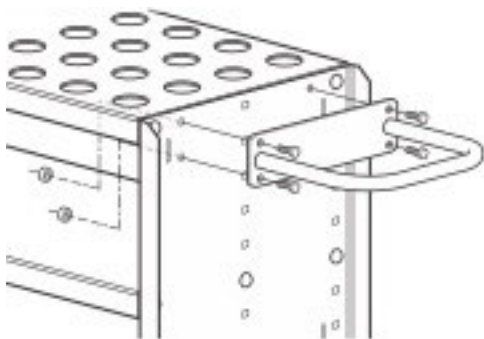

Figure 4-22
2. Using four M8 x 25 Hex Flange Bolts (item #5) with M8 Flanged Nylock Hex Nuts (item #2), attach the Handle (item #6) to the Side Panel (item #4) as shown in Figure 4-22. Note: The top two bolts will pass through the Tooling Insert Tray. **Do not fully tighten nuts at this time.**